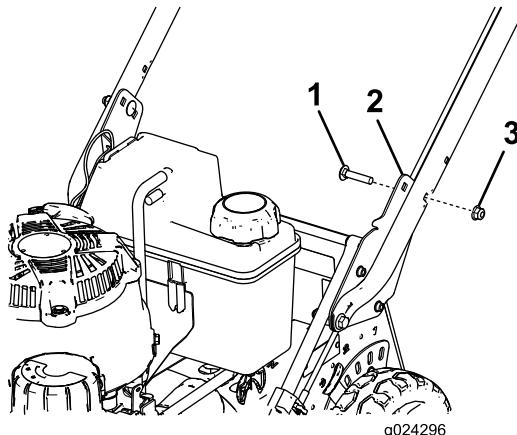

**Figure 5**
- Stand in the operating position to determine the handle height that is most comfortable for you (Figure 5).